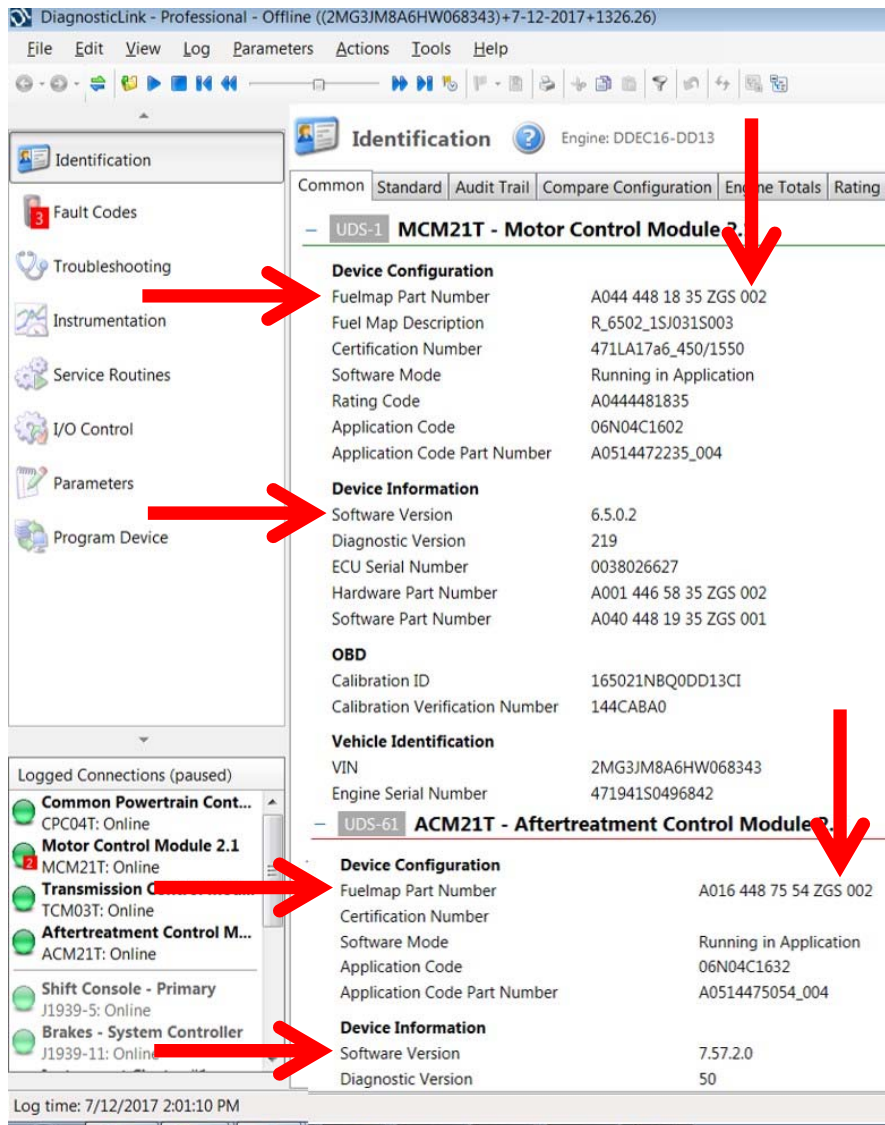

Figure 4 – DiagnosticLink® Identification Screen
5. On the Identification screen, check the current MCM and ACM software and fuel map part number ZGS levels. Listed below are the **MINIMUM** levels required. See Figure 4 for an example of the Identification screen.
6. Is the **software** level for all modules less than, equal to, or higher than the minimum software levels listed in step 5? All modules must meet the **MINIMUM** requirements. For example in Figure 4, MCM software 6.5.0.2 and ACM software 7.57.2.0 are both less than the minimum levels of 6.6.0.1 and 7.58.2.0, and thus would require programming regardless of fuel map part number ZGS level.